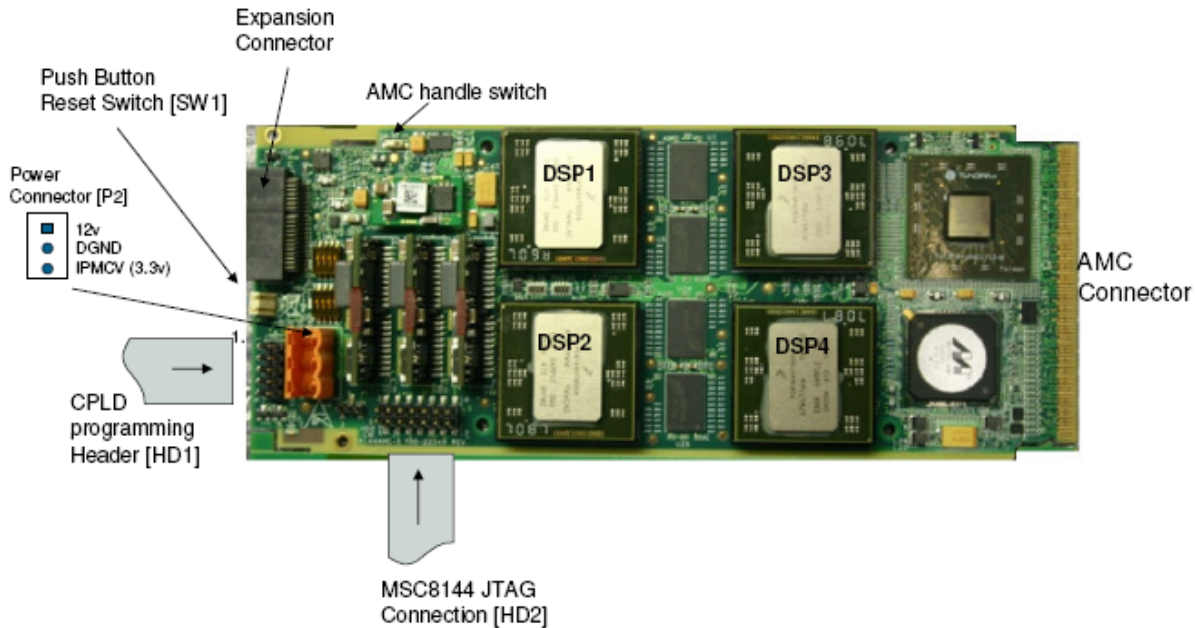

Figure 3. Connector and Push-Button Locations
- An external power supply connector (P2) is supplied for stand-alone operation (see Figure 3). In this mode, make sure that adequate cooling is provided for the board.